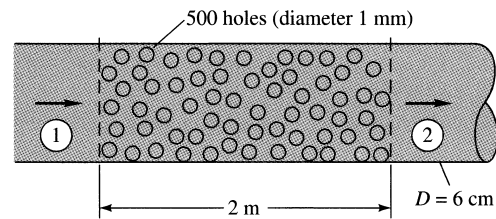

Fig. P6.147
6.147 Air flows through a 6-cm-diameter smooth pipe which has a 2 m-long perforated section containing 500 holes (diameter 1 mm), as in Fig. P6.147. Pressure outside the pipe is sea-level standard air. If $p_1 = 105 \text{ kPa}$ and $Q_1 = 110 \text{ m}^3/\text{h}$, estimate p_2 and Q_2 , assuming that the holes are approximated by thin-plate orifices. *Hint:* A momentum control volume may be very useful.